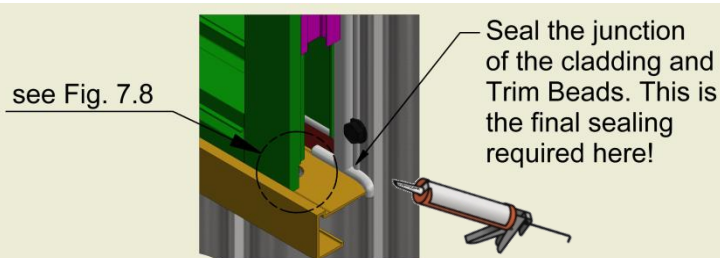

Figure 7.7
- Before installing the **jamb** Trim Beads, the junction between the **sill** Trim Bead and the external face of the cladding needs to be sealed with silicone as shown in **Figure 7.7**.